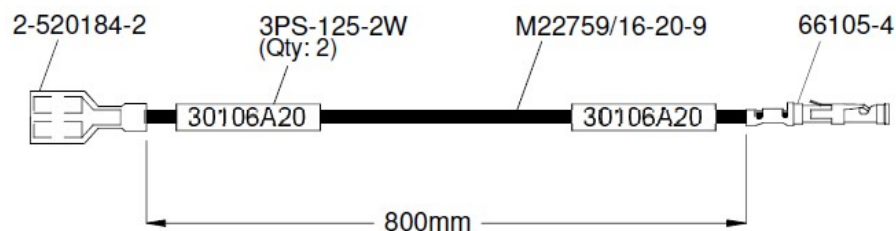

Figure 15: Preparation of Lead Wire for the PITOT HEAT Rocker Switch
11.2.3.1 Prepare the following lead wire according to Figure 15.